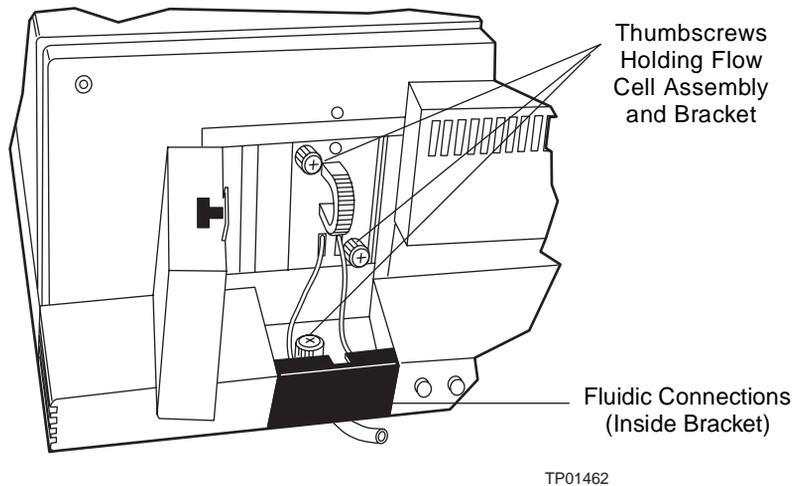

Figure 3-2 Removing the Flow Cell Assembly
6. Use the Phillips screwdriver to loosen the two thumbscrews that hold the flow cell assembly to the optics bench and the thumbscrew that secures the bracket holding the fluidic connections, then detach the bracket (Figure 3-2).